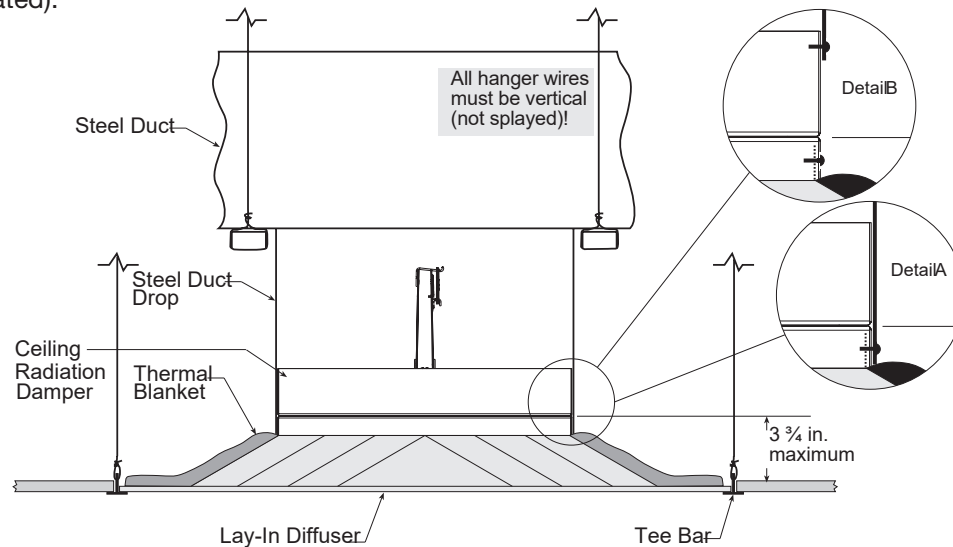

Figure 2
- 1) Ceiling radiation damper and diffuser neck may be connected directly to the duct drop (see **Detail A, Figure 2**).
- 2) Ceiling radiation damper may be connected directly to the diffuser neck and then the duct drop connected to the damper (see **Detail B, Figure 2**).
Models CRD-1, CRD-1LP, CRD-2, and CRD-60 may be installed as shown in **Figure 2** (Model CRD-1 and CRD-1LP as illustrated).